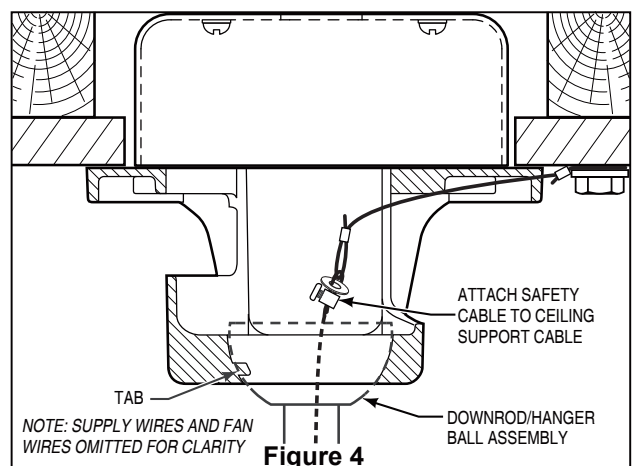

Figure 4
4. Slide downrod into the downrod support on top of the motor. Install the clevis pin by aligning the holes in the downrod support with holes in the downrod. Secure clevis pin with hairpin clip. Tighten the two set screws with nuts in the downrod support. (Figure 4)
- ☐ 4. Carefully lift the fan and seat the downrod/hanger ball assembly on the hanger bracket that was just attached to the outlet box. Be sure the groove in the ball is lined up with tab on the hanger bracket (Figure 4)
- ☐ 5. Attach the safety cable to ceiling support cable. Slide cable clamp and washer onto safety cable (from fan). Place the end of cable through the loop of ceiling support cable. Pull as much cable through loop as possible. Feed end of cable into clamp hole and firmly tighten screw (Figure 4).
- ☐ **4.** Secure the glass to light plate assembly by twisting in a clockwise direction. Do not over-tighten. (Figure 4)
- ☐ 4. The remote buttons function as follows: (Figure 4)